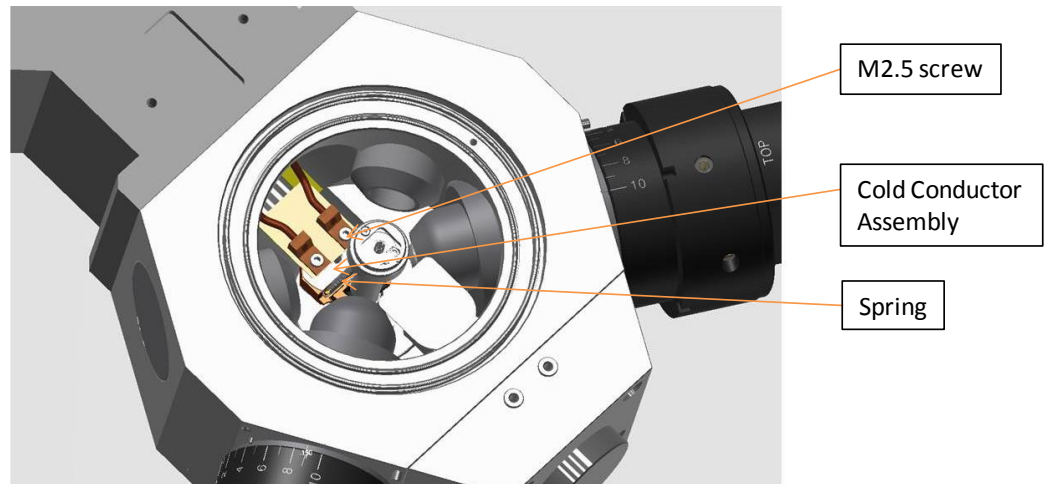

Figure 7-6 Open chamber showing access to cold stage
- c) Connect the cold stage to the hinged conductor assembly. Install the two M2.5 screws and washers that connect the cold stage heater to the hinged conductor assembly. See Figure 7-6.